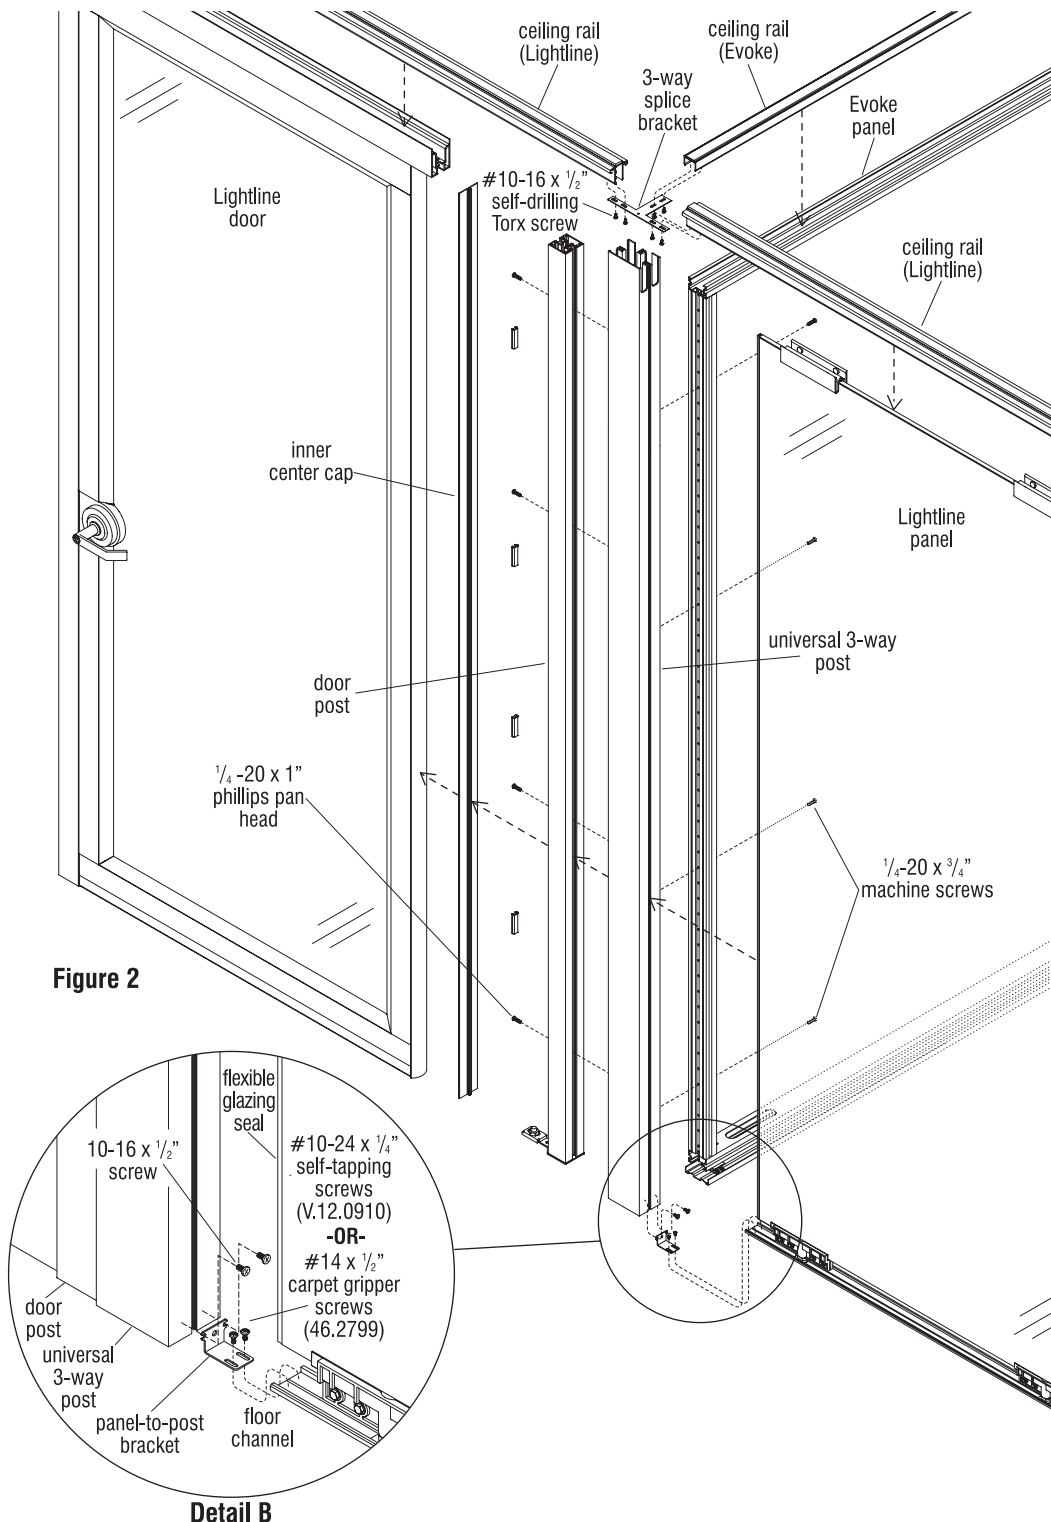

Figure 2
2. Position the 3-way splice bracket between the Evoke and Lightline ceiling rails. Then secure the bracket to both ceiling rails using six #10-16 x $1\frac{1}{2}$ " self-drilling screws. (Figure 2, page 39).
7. Once door frame is installed, notice the door post has four holes drilled all the way through the post. The inside face of the post has larger clearance holes that will allow the entire screw to pass through, and the outside face of the post has smaller clearance holes where just the shank of the screw will fit through. With a fully assembled door frame (see appropriate door instructions beginning on page 43) up against the universal post, pass a screw through the clearance hole in the inside face of the door post using a magnetic bit. Twist the screw into the vertical threaded groove in the universal post. Continue to attach the door post to the universal post by installing and tightening the three remaining screws (Figure 2).
8. Reinstall the inner door center cap to conceal the holes and install door leaf. (Figure 2).
10. Next, prepare Lightline panel with flexible seal. See Lightline Assembly Instructions "Flexible Glazing Seal at Door Frame and Posts" (Figures 1 through 4, page 28). Once seal is installed, position a properly aligned and adjusted Lightline panel against the universal 3-way post (Figure 2).
11. Secure Lightline panel to universal post using a panel-to-post bracket. Position the panel-to-post bracket onto the floor channel of the Lightline panel as illustrated. Align the bracket holes with the floor channel and secure with two screws. If securing over hard floor, use two #10-24 x $\frac{1}{4}$ " hard floor screws (V.12.0910) (shown). If installing over carpet, use two #14 x $\frac{1}{2}$ " carpet gripper screws (46.2799). Then secure the panel-to-post bracket to the corner post with two 10-16 x $\frac{1}{2}$ " screws into the post (Figure 2 & Detail B).
13. Position the Evoke panel to the universal post and secure using four $\frac{1}{4}$ -20 x $\frac{3}{4}$ " machine screws evenly spaced (Figure 2).